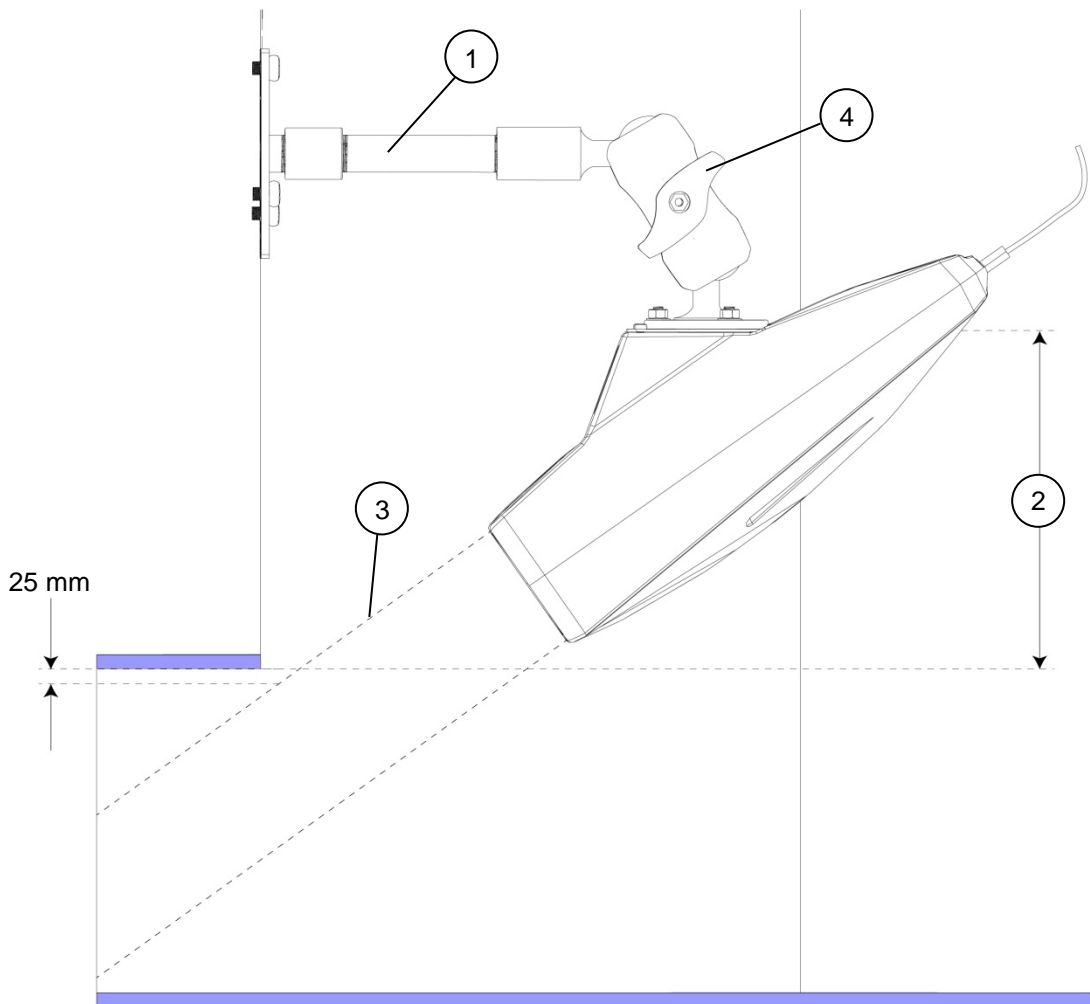
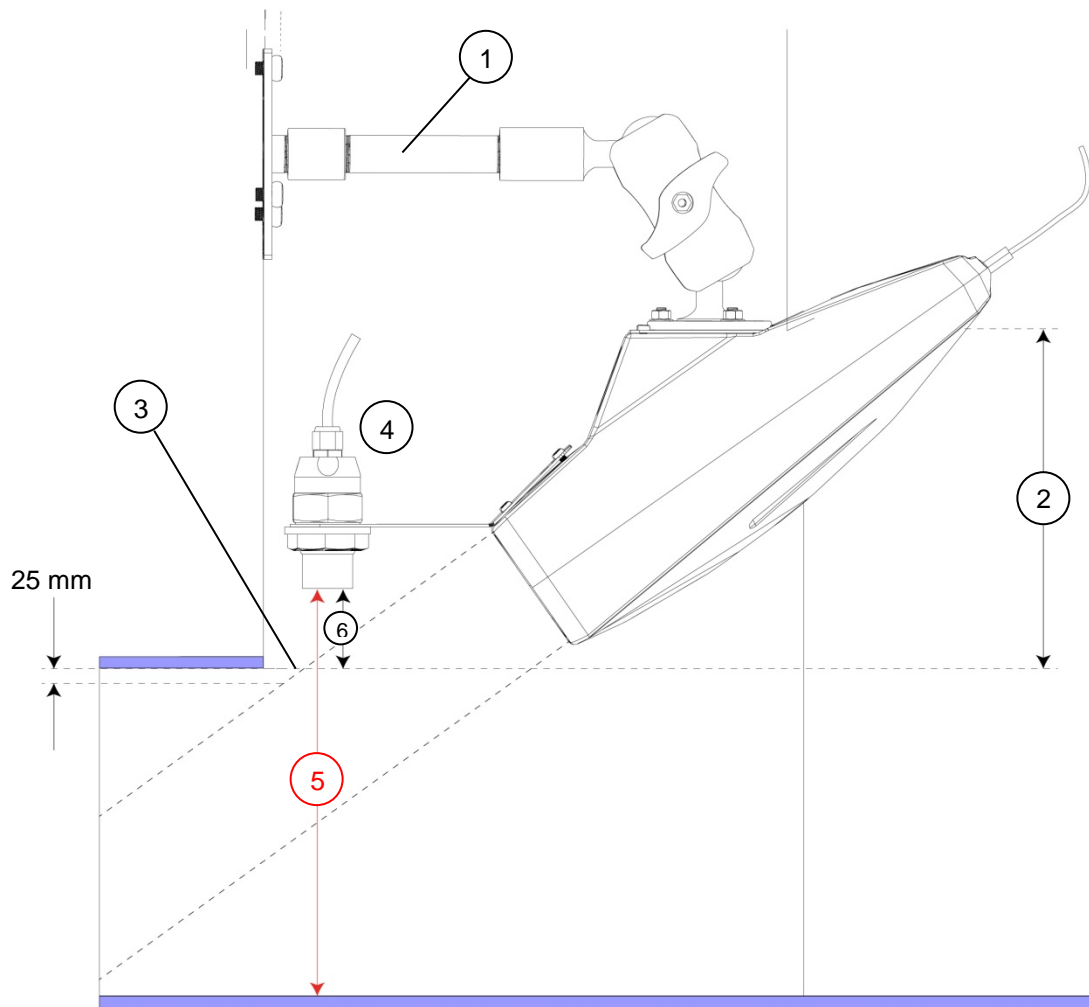

Figure 10: Vertical alignment of the RAVEN-EYE® sensor
Figure 12: Vertical alignment of the RAVEN-EYE[®] sensor with attached level sensor
2. Make sure that when the sensor is in position, the radar beam will not be blocked by the wall or channel. Refer to Figure 10 or Figure 12.
The sensor must be aligned vertically to make sure that the sensor is above the flow and that the radar beam will not be blocked by the wall or pipe (Figure 10).
1. Make an estimate of where a line that extends from the top of the radar lens perpendicular to where the lens will point (Figure 10).
2. Loosen the wing nut on the ball mount hardware and position the frame so that the radar beam will point below the crown of the pipe by at least 25 mm (Figure 10). It may be necessary to install the 200 mm or the 300 mm (optional) spacer to position the RAVEN-EYE® farther from the wall.
The sensor must be aligned vertically to make sure that the sensor is above the flow and that the radar beam will not be blocked by the wall or pipe (Figure 12).
1. Make an estimate of where a line that extends from the top of the radar lens perpendicular to where the lens will point (Figure 12).
2. Loosen the wing nut on the ball mount hardware and position the frame so that the radar beam will point below the crown of the pipe by at least 25 mm (Figure 12). It may be necessary to install the 200 mm or the 300 mm (optional) spacer to position the RAVEN-EYE[®] further from the wall.